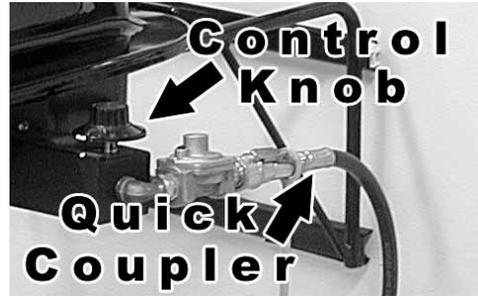

Fig. 20
3. Attach the propane hose from the grill to the “quick coupler” propane connection as directed above. (Fig. 20)
- › On the BBQ grill control knob, depress and turn the knob to the desired temperature. (Fig. 20)
6. If the grill does not light, turn the propane off, wait five (5) minutes and repeat the above steps.